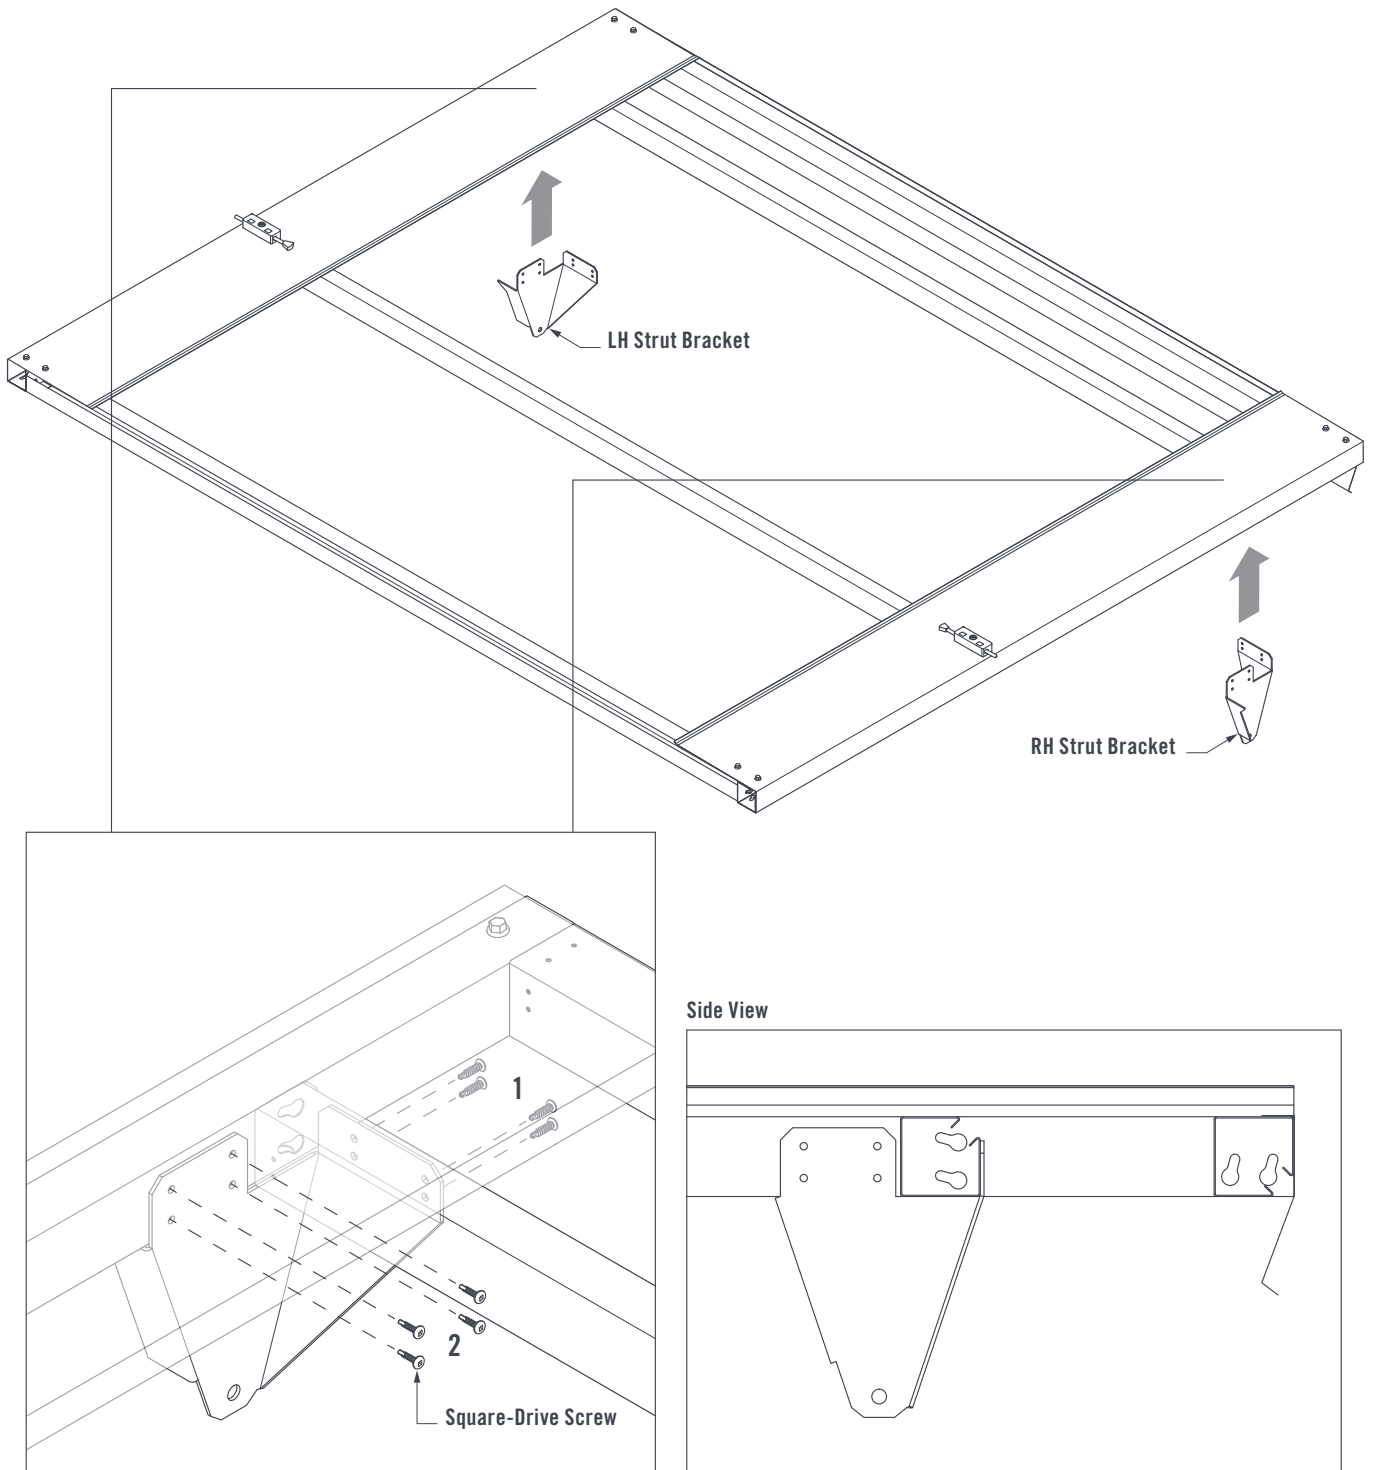

FIGURE 9.1
Fit the LH and RH Strut Brackets to the Door Frame Assembly. Fasten the Strut Brackets to the Frame using four Square-Drive Screws through the pilot holes provided in the top leg of the bracket (1), then use four Square-Drive Screws through the pilot holes in the side of the Bracket (2) (Figure 9.1).